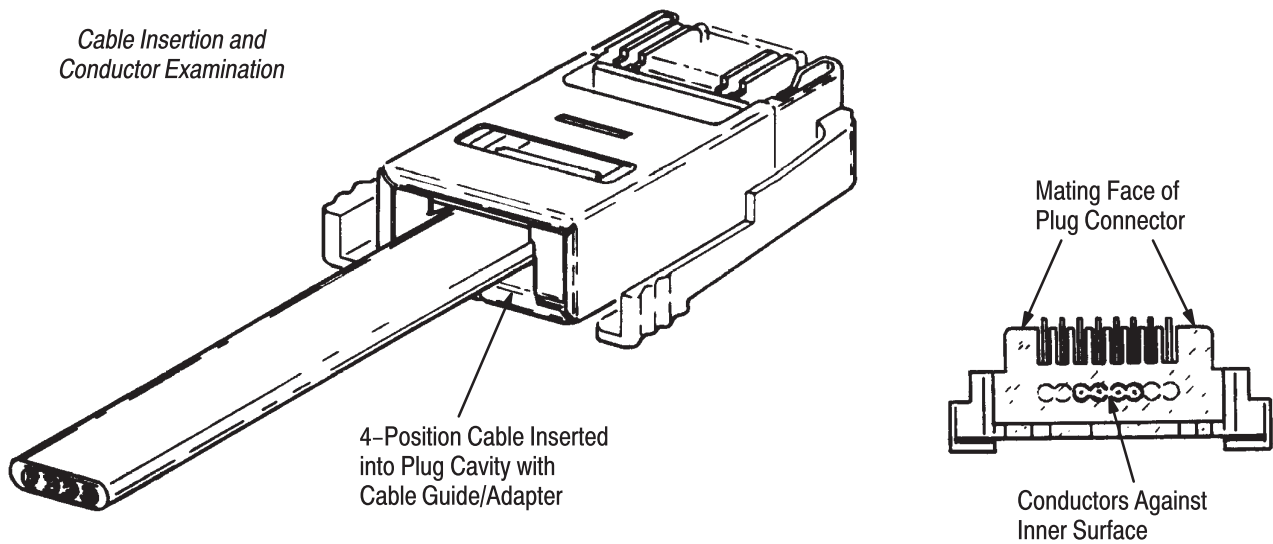

Figure 3
5. Examine the mating face of the plug connector to ensure that the conductors are against the inner surface of the mating face. Refer to Figure 3.